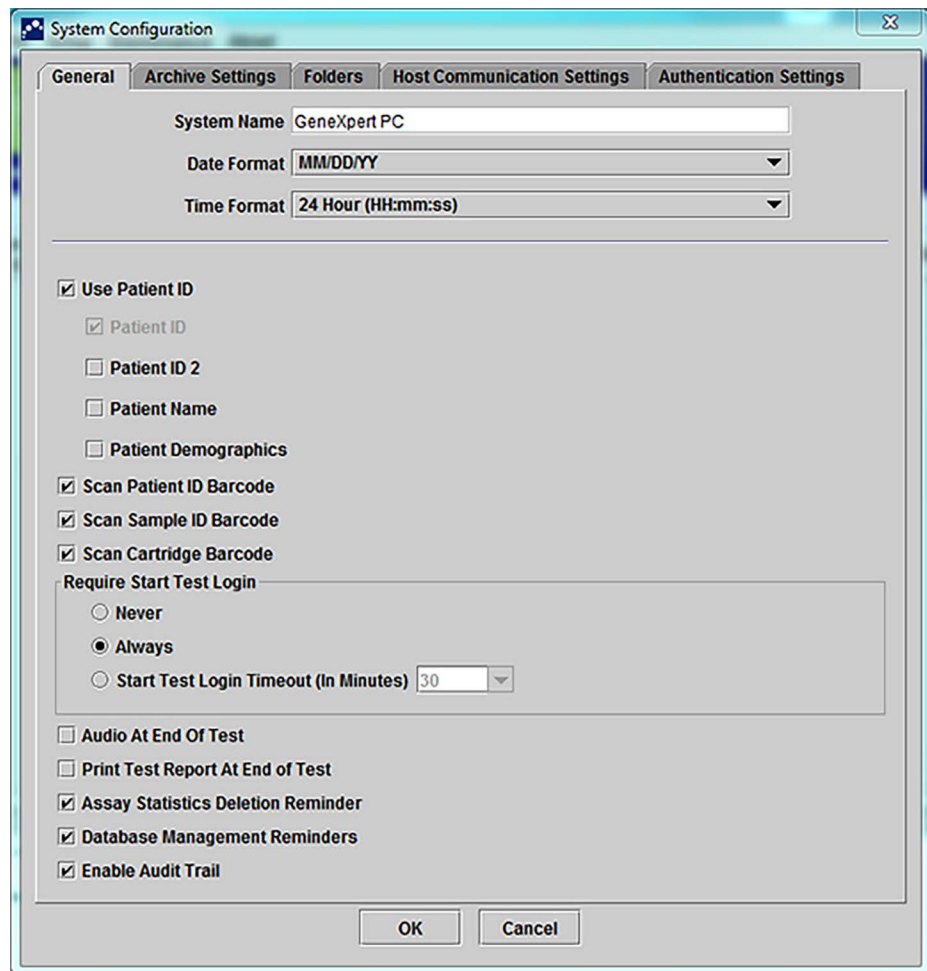

Figure 2-57. System Configuration Dialog Box (General Tab)
2. Click to select the user to be removed. See Figure 2-57.
4. To remove additional users, repeat Step 2 and Step 3. If you are done removing users, click **Close** (see Figure 2-57).